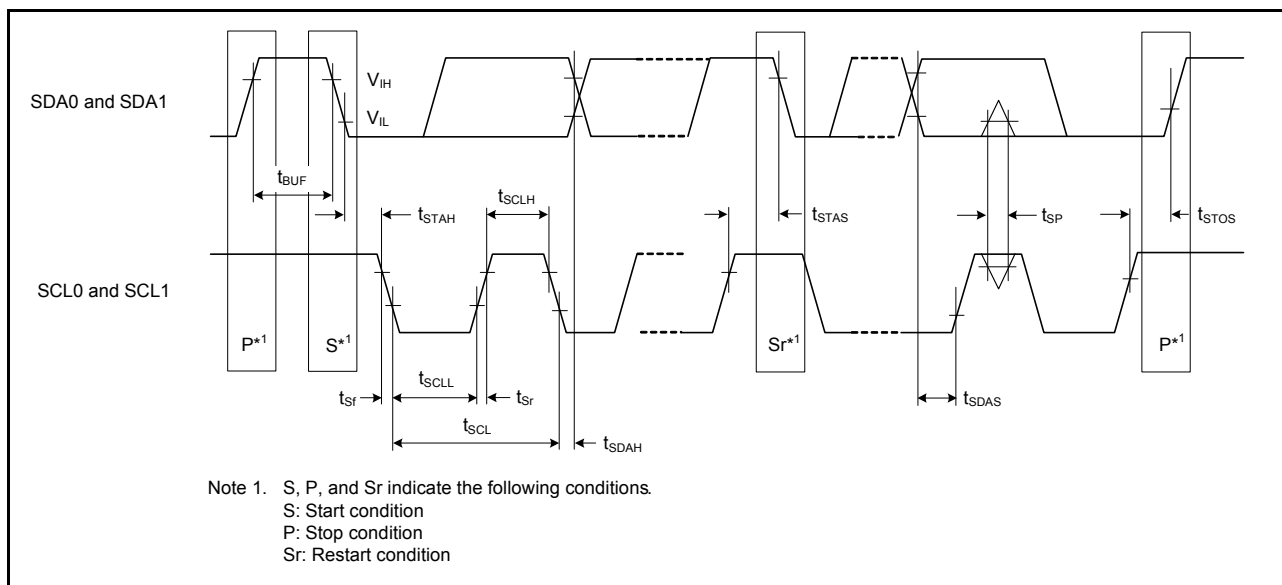

Figure 2.56 I2C bus interface input/output timing
| IIC(standard mode,SMBus) | SCL input cycle time  | $t_{SCL}$  | $6 (12) \times t_{IICcyc} + 1300$                   | -                         | ns   | Figure 2.56     |
| IIC*2(Fast mode)             | SCL input cycle time  | $t_{SCL}$  | $6 (12) \times t_{IICcyc} + 600$                    | -                         | ns   | Figure 2.56     |